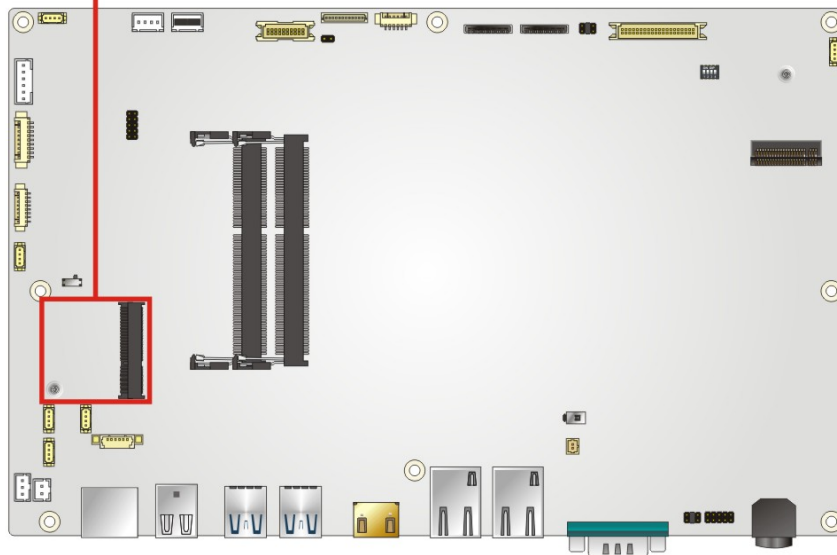

Figure 6-5: PCIe Mini Card Slot Location
- Step 2:** Locate the PCIe Mini card slot (**M_PCIE1**) on the motherboard. Remove the preinstalled retention screw on the screw pillar of the PCIe Mini slot (**Figure 6-5**).